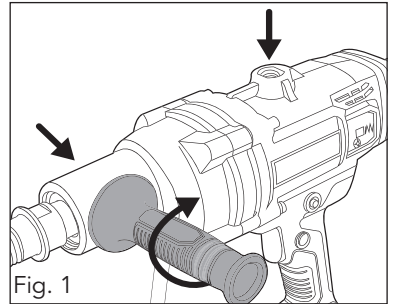

Fig. 1
The side handle should be assembled to the diamond core drill prior to use. This is done by screwing the threaded end of the handle firmly (fig. 1) in to either side of the gear housing (3), or alternatively top side handle mount (4). Choose the most appropriate position considering user comfort (preferred hand) and the task at hand.